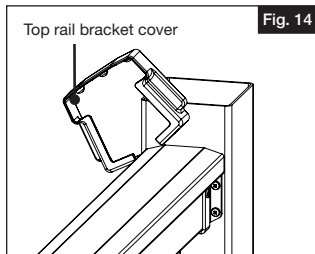

Fig. 14
- Open the top rail bracket cover to allow it to wrap around the top rail (Fig 14). While open, make sure the "tab" fits behind the rail and against the post.